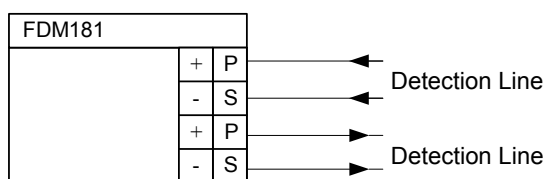

Fig. 3
2. Connect the feed line to the terminals on the electronic component according to the connection diagram (see Fig. 3).